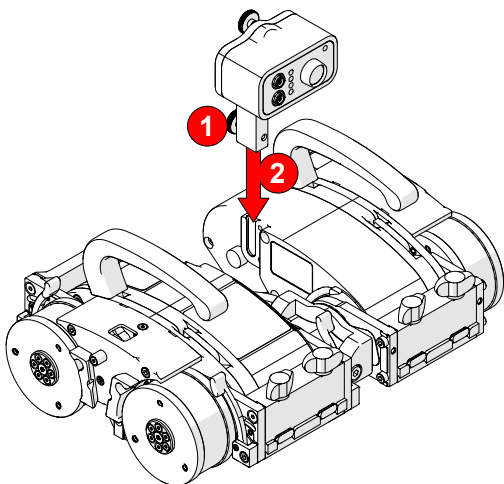

Fig. 14 - Mount preamp to the dove-tail accessory mount
1. Loosen the knob of the preamp mounting bracket **1** (Fig. 14).
2. Align the preamp's mounting bracket with the NAVIC's dove-tail accessory mount **2** (Fig. 14).